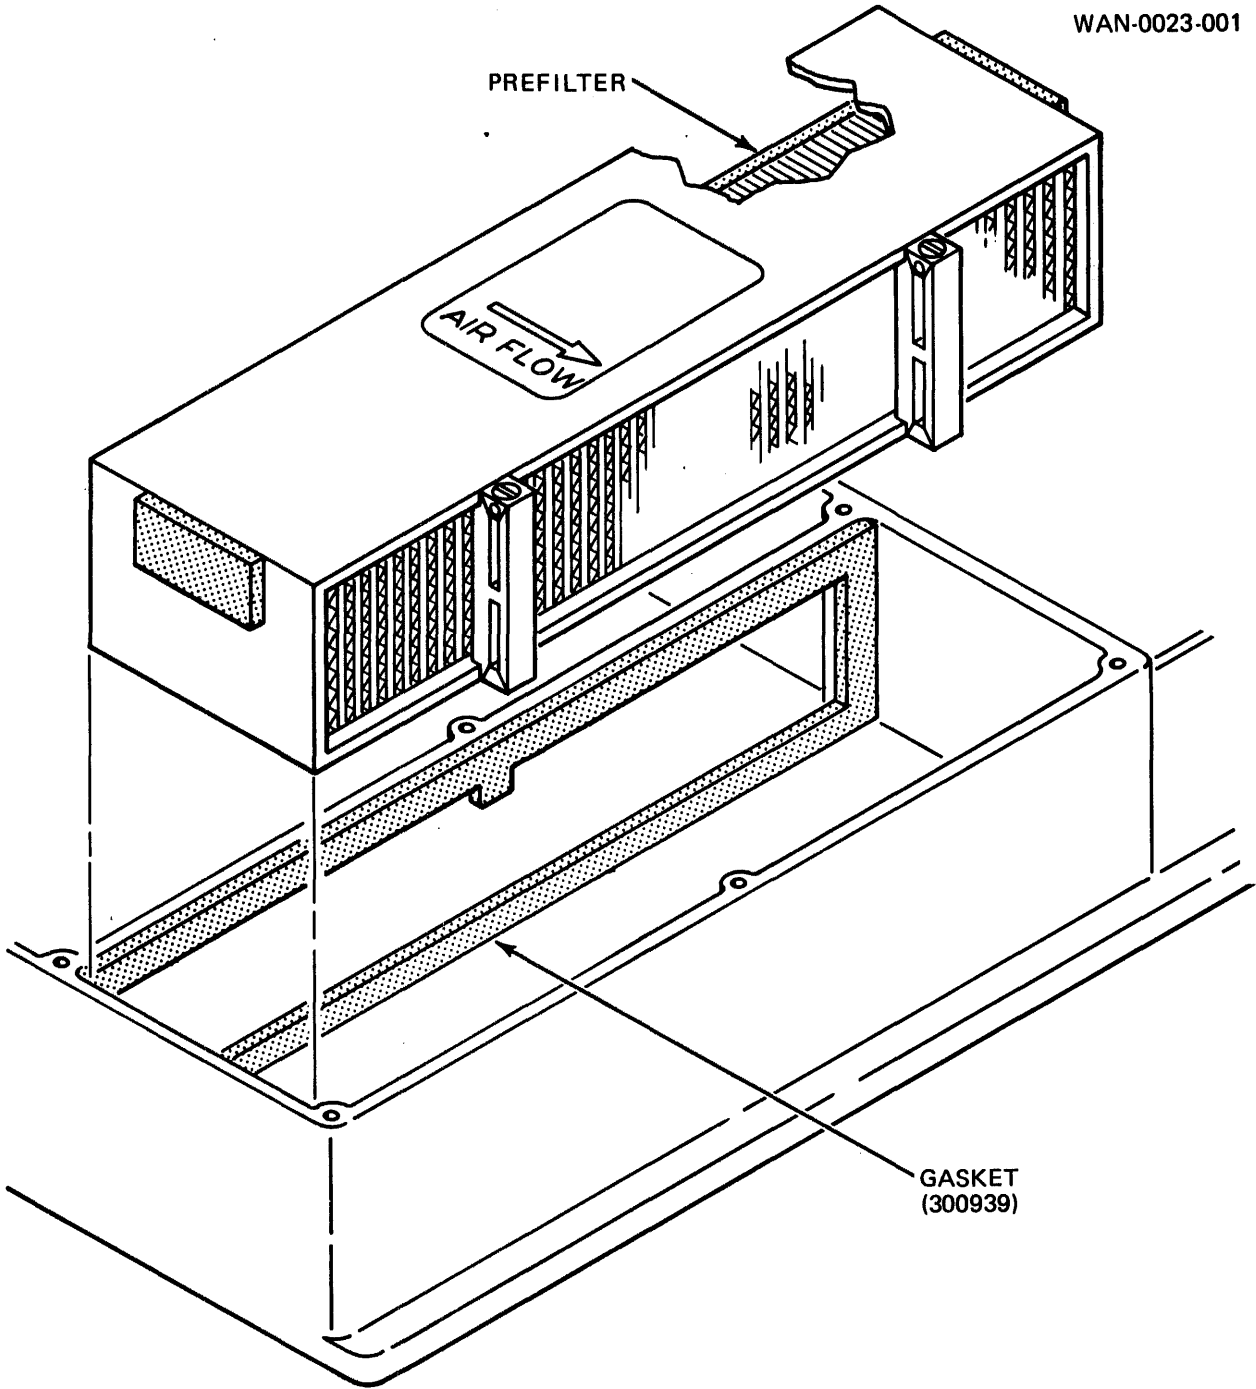

Figure 5-16. Air Filter Installation
- C. Remove the air filter access cover, loosen the wedge-shaped filter clamps, and remove the air filter (ref. figure 5-16).
5.4.3.1 Air Filter. The air filter, as shown in Figure 5-16, is located in the rectangular cavity in the bottom side of the base casting adjacent to the spindle assembly. It is retained by a sheet metal cover. To remove this assembly, perform the following steps: